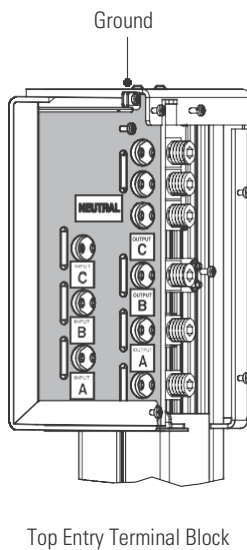
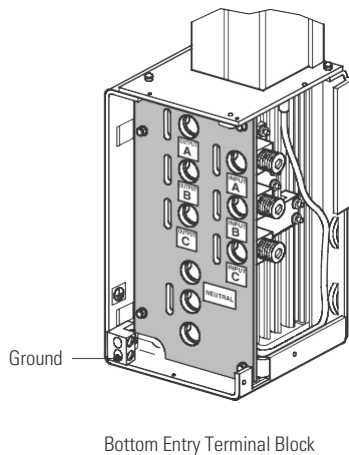

Figure 18. BladeUPS Bar Top Entry Terminal Block
Figure 23. BladeUPS Bar Terminal Block
- Pull approved electrical conductors for the system, and connect the input, output, and ground wires to the BladeUPS Bar top entry terminal block according to Figure 18 and Table 4.
6. Pull approved electrical conductors to the system and connect the input, output, and ground wires to the BladeUPS Bar terminal block according to Figure 18 and Table Route the three input phases and the input neutral through the mounted or loosened ferrite assembly (see Figure 23).